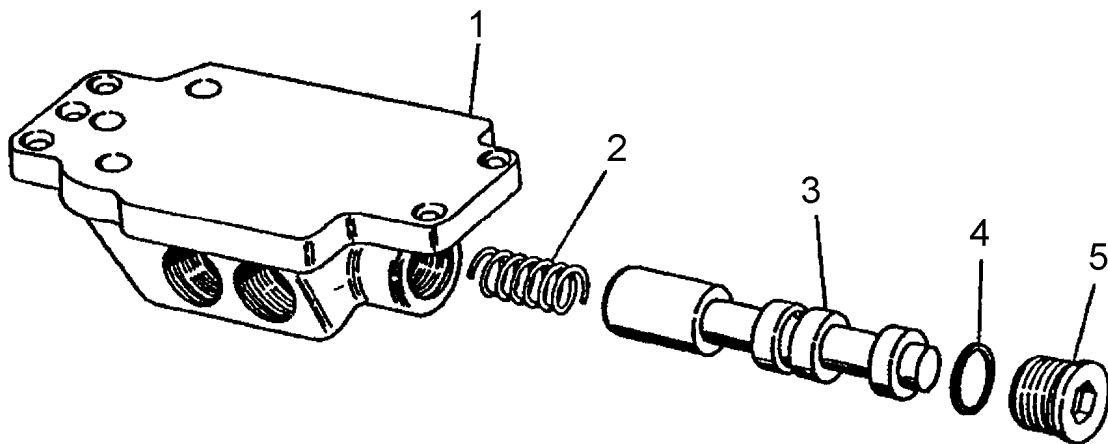

Fig. 7E.18. Exploded View of Steering Manifold
16. DISASSEMBLY (Refer to Fig. 7E.18)